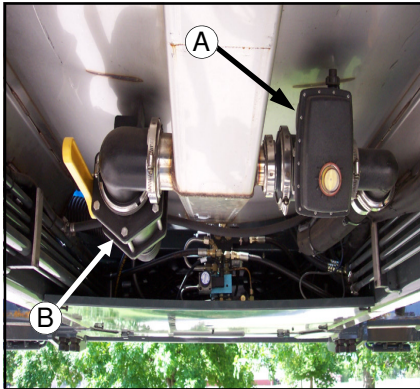
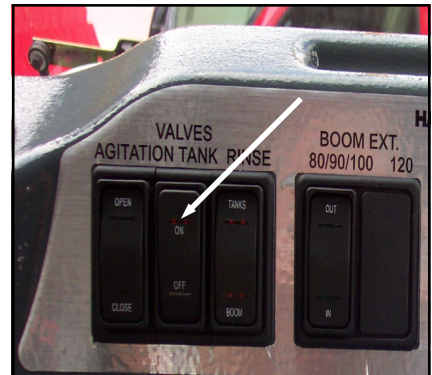

FIG 63-2
FIG 63-3
**SOLUTION TANK VALVE**– The solution tank valve (fig. 63-2, item A) controls the amount of solution coming out of the tank. The valve is controlled from inside the cab with the TANK VALVE switch (fig. 63-3) located on the right hand console.
**TANK SUMP VALVE**– The tank sump valve (fig. 63-2, item B) is a ball type valve that has to be turned on and off manually. This valve is to allow the fluid into the tank from the fill option.